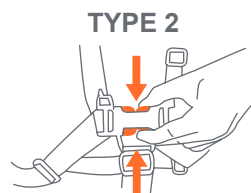

Fig. 16
- 16)** • To release, apply pressure to both sides of each male clip until the clip is released (Fig. 16).